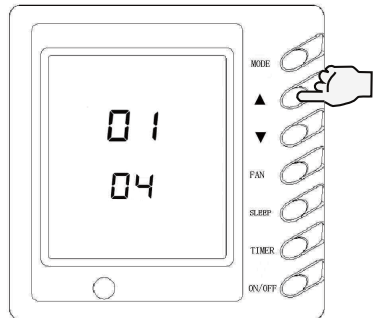

Fig.23
D. Under heating mode, select air inlet's temp sensor or under other modes select wired controller's temp sensor and the setting temp area displays 04, as shown in Fig.23.